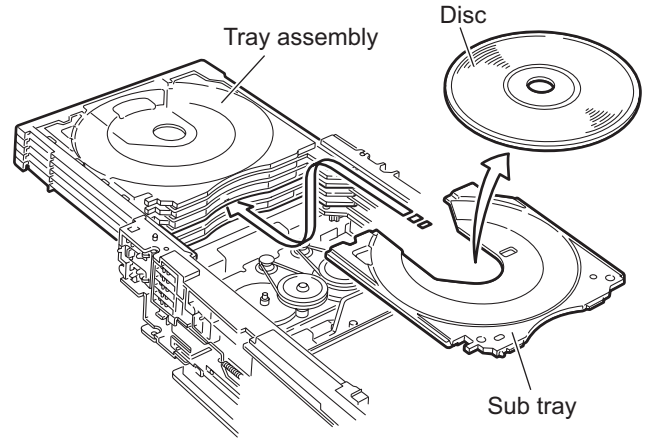
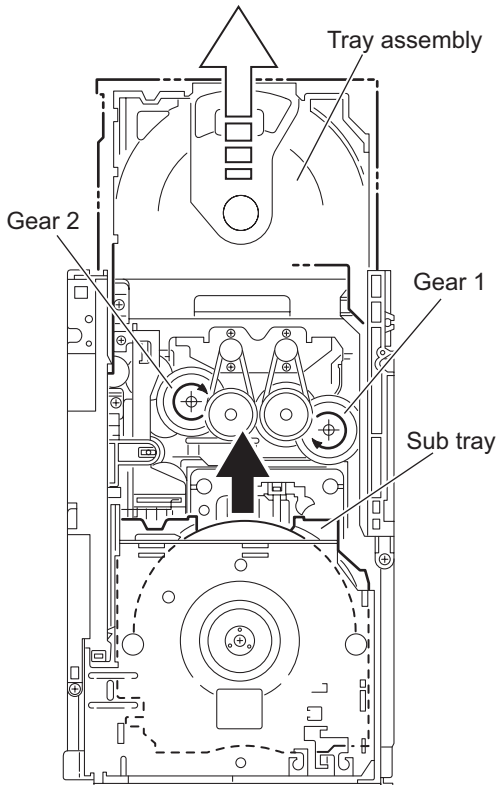

Fig.40
Fig.39
### 3.2.15 Taking out the disc in the play mode (See Fig.39 to 42)
- (1) From the top side of the DVD changer mechanism assembly, remove the top cover.
- (2) Unlock the tray assemblies and draw out the tray assemblies toward the front.
- (3) From the top side of the DVD changer mechanism assembly, turn the gear 1 clockwise to move the lifter assembly upward. (See Fig.39.)
- (4) Turn the gear 2 clockwise to move the sub tray remaining inside the lifter assembly toward the front, then pull out.
- (5) Take out the disc on the sub tray. (See Fig.40.)